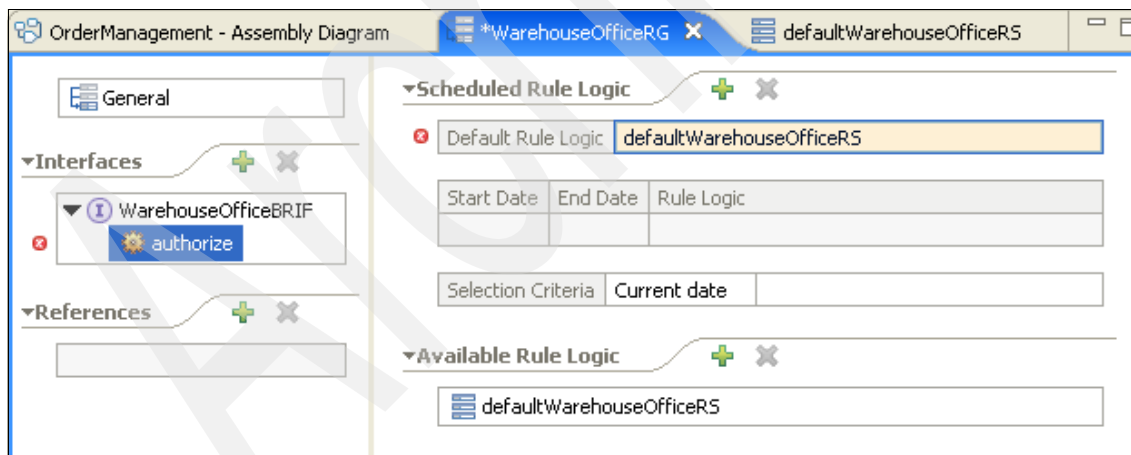

Figure 3-105 WarehouseOfficeRG default rule logic
- d. Save **WarehouseOfficeRG**, as shown in Figure 3-105.